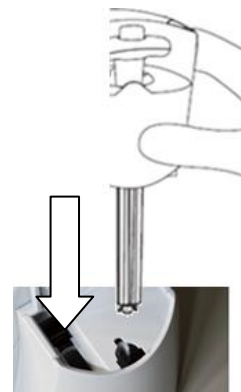

Figure 65: Replacing Isolation Chamber
- 1) To replace, align Isolation Chamber fingers with opening in the top of the unit (refer to Figure 65).